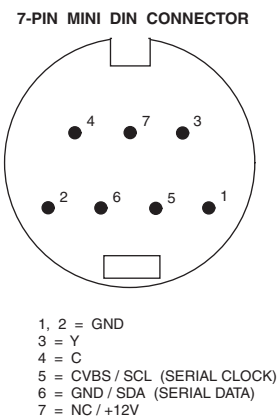

Figure 5.1. S-Video Connector and Signal Names.
Many video components now support a 4-pin "S1" S-video connector, illustrated in Figure 5.1 (the female connector viewpoint). This connector keeps the intensity (Y) and color (C) video signals separate, eliminating the Y/C separation process in the TV. As a result, the picture is sharper and has less noise. Figures 9.2 and 9.3 illustrate the Y signal, and Figures 9.10 and 9.11 illustrate the C signal.
The PC market also uses an extended S-Video interface. This interface has 7 pins, as shown in Figure 5.1, and is backwards compatible with the 4-pin interface.